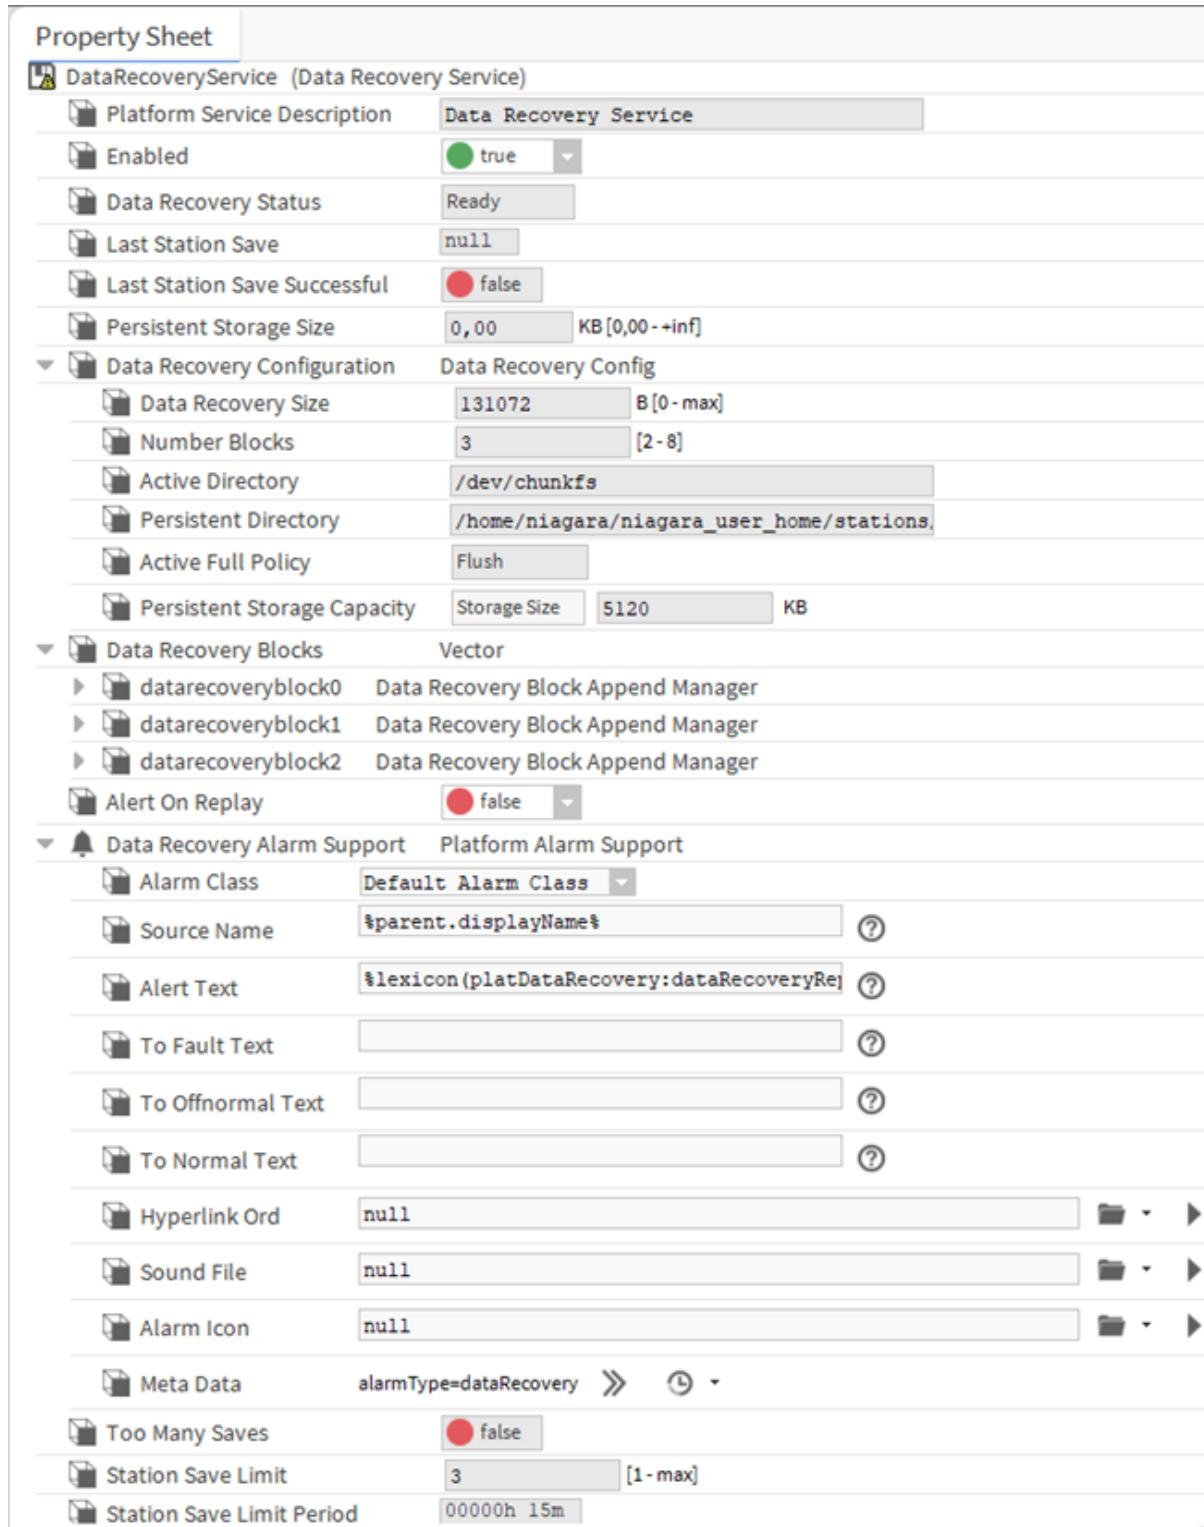

Figure 34. MAC36NL Platform Service Properties view of DataRecoveryService
- Generate Alert On Replay: configurable in N4.6 and later. The Boolean (true/false) value that generates an alert (low priority alarm type), which indicates whether a Data Recovery Replay occurred (power was lost). This is a persistent artifact that will show up in the alarm console, since it is useful to know when the power loss occurred. By default the value is false. If set to true, upon any controller boot sequence in which the NV-RAM recorded data is discovered and played back, a corresponding alert is routed to the Alarm Class named in the Data Recovery Alarm Support container. The figure 34. shows details for such an example alert.